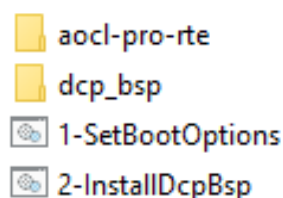
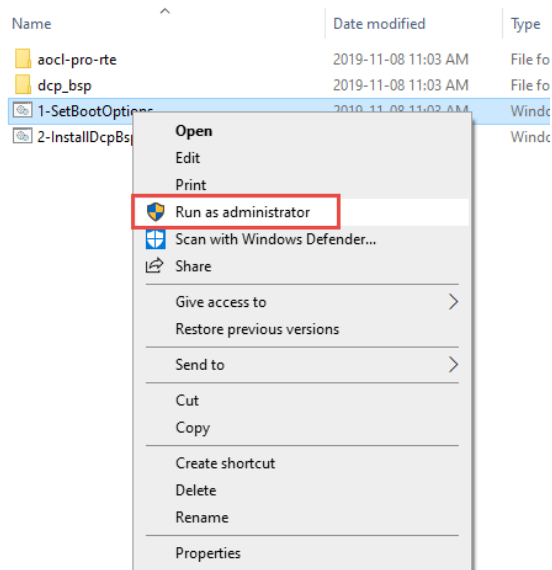

Figure 3-4 The FLIK-Windows-Install folder
Figure 3-5 Run 1-SetBootOptions.bat as administrator
3. Go to the path “**/OpenVINO2019R1_windows/FLIK-Windows-Install_19.2**” and execute “**1-SetBootOptions.bat**” as an Administration to enable test-signed code and device driver signing of the windows, as shown in **Figure 3-4** and **Figure 3-5**.